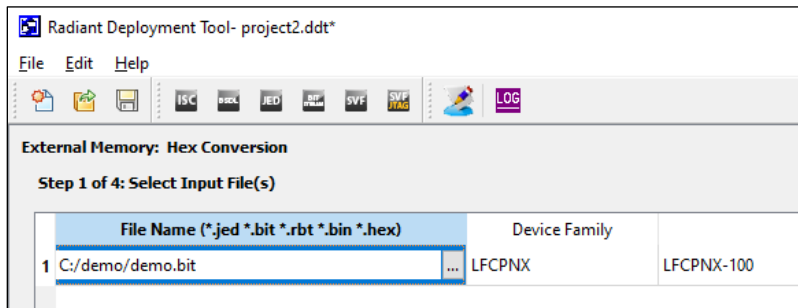

Figure 6.9. Input File Selection
7. Click the ... button to select the .bit file. Click **Next** to proceed. See Figure 6.9.